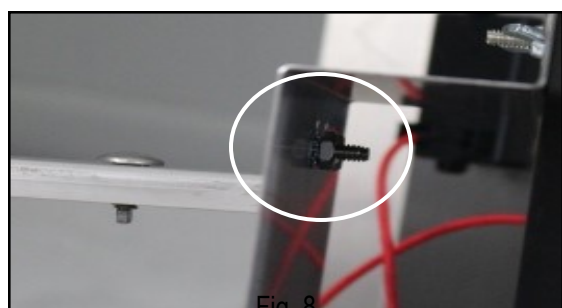

Fig. 8
2. Secure the LP tank fastener from the inside of the heat shield with (2) 10-24 Kep Nuts as shown in (Fig. 8) and tighten with 3/8" wrench.